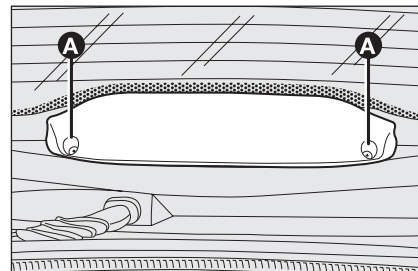

fig. 37
- slacken the two screws **A-fig. 37** and remove the whole cover;